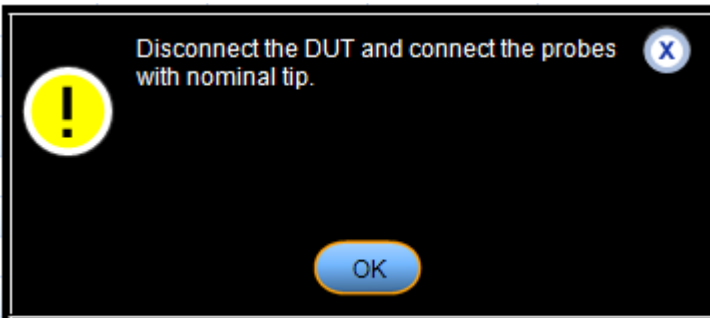

Figure 25: Disconnect DUT and connect probe with nominal tip
13. If probe compensation was already performed, below pop-up, as shown in Figure 25 on page 27 will be displayed.